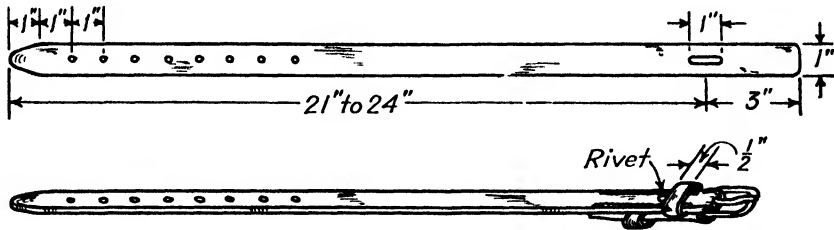
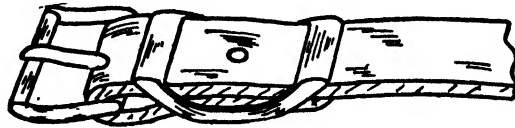

Fig. 9-17. A homemade belt or strap. The buckle is attached by sewing and riveting.
Fig. 9-18. A buckle attached to a leather strap by a piece of special leather hardware known as a conway loop.
A buckle or snap may be attached to a piece of leather by (1) sewing, (2) riveting, (3) both sewing and riveting (see Fig. 9-17), or (4) using a special loop or piece of leather hardware (Fig. 9-18).
bevel the strap on the rough, or flesh, side back about an inch from the end. Make the slot for the tongue of the buckle by punching two holes in the leather about an inch apart and then cutting out between the holes with a sharp knife. If desired, a leather loop or keeper may be sewed into place by careful work (see Fig. 9-17).